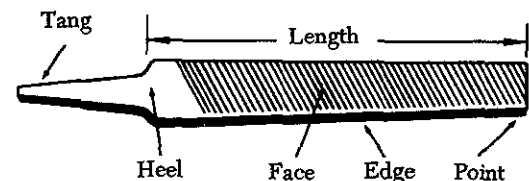

FIGURE 12-10. Hand file.
Files have three distinguishing features: (1) Their length, measured exclusive of the tang (figure 12-10); (2) their kind or name, which has reference to the relative coarseness of the teeth; and (3) their cut.